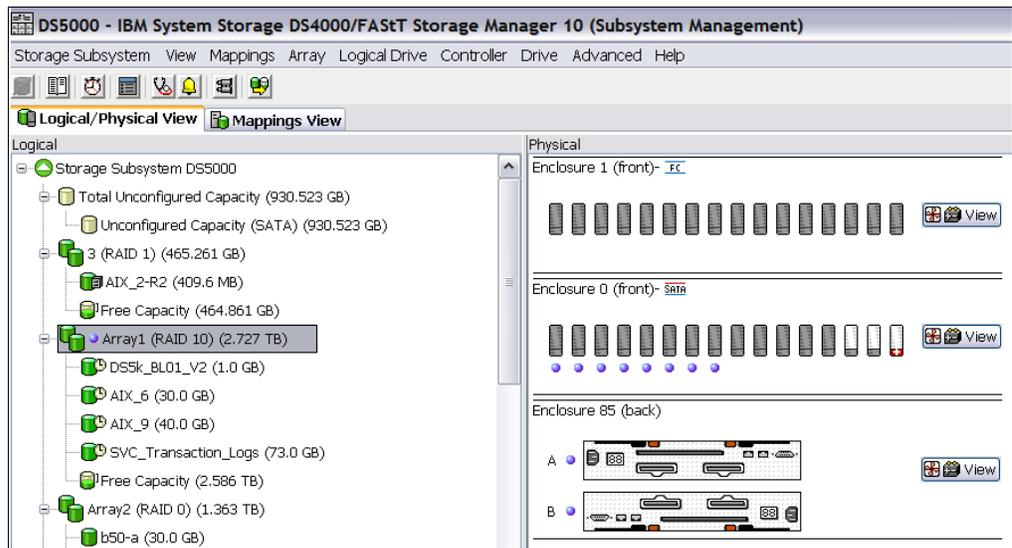

Figure 11-37 Transaction Log LUN
- ▶ The second LUN is the transaction logs for that SQL database (Figure 11-37).
- The read ahead multiplier is set to disabled (0).